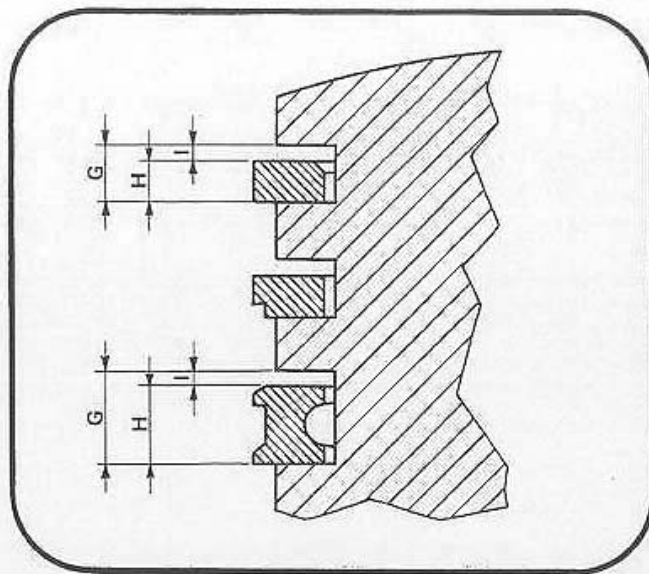

Fig. 56
**GIOCHI MIN E MAX NEL MONTAGGIO DEGLI ANELLI DI TENUTA E RASCHIAOLIO** (vedi fig. 56 e tab. 5).
**MIN. AND MAX. AXIAL CLEARANCE ON ASSEMBLING FOR COMPRESSION RING AND OIL-SCRAPERS** (see fig. 56 and tab. 5).